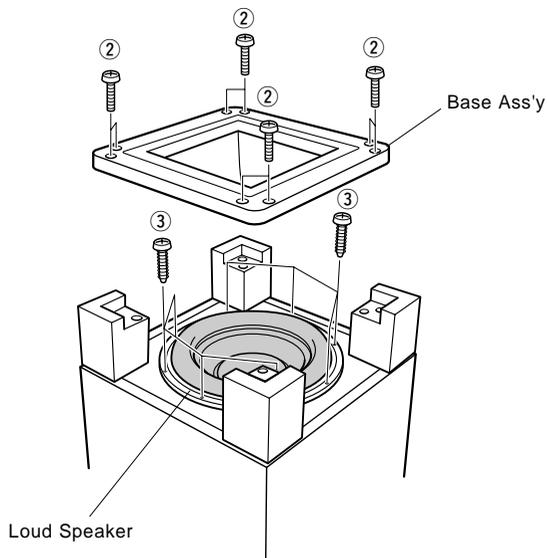

Fig. 2
- a. Remove 8 screws ( ② ) and then remove the Base Ass'y in Fig. 2.
- b. Remove 8 screws ( ③ ) and then remove the Loud Speaker in Fig. 2.